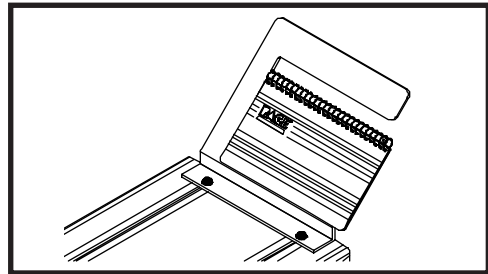

Figure 5. Chart Holder
7. Using Figure 5 as a guide, install the Tip & Temperature Selection System Chart Holder to the top of the power source. The chart holder is a standard item on MBT 250 systems and is an optional item on MBT 220 systems. The Temperature Selection System Charts (in booklet form) are shipped with both systems.